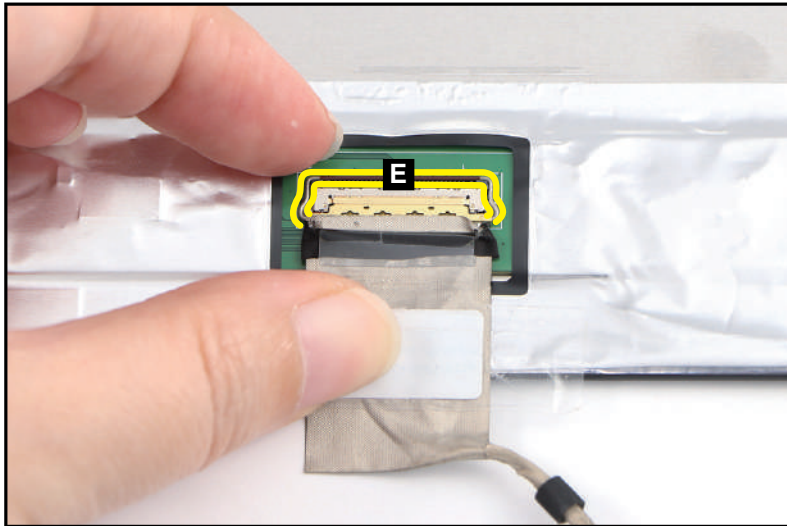

Figure 3-78. LCD Panel Removal
4. Lift the latch (E) securing the LCD cable (Figure 3-78).